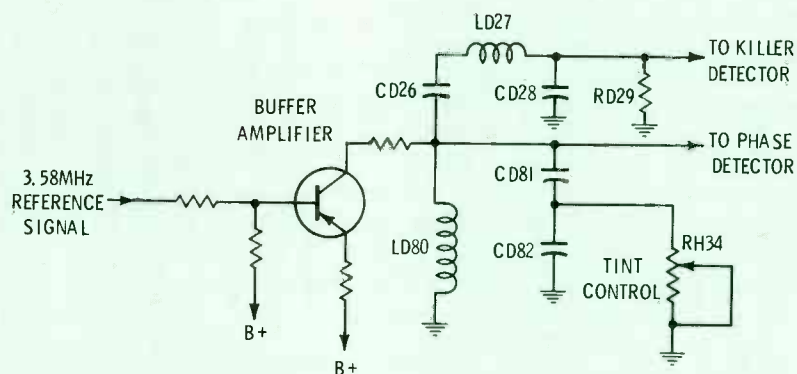

Fig. 7 Transistor buffer amplifier supplies 3.58-MHz reference signal to color-killer and phase detector diodes.
3.58-MHz Reference Feedback System (Fig. 7)